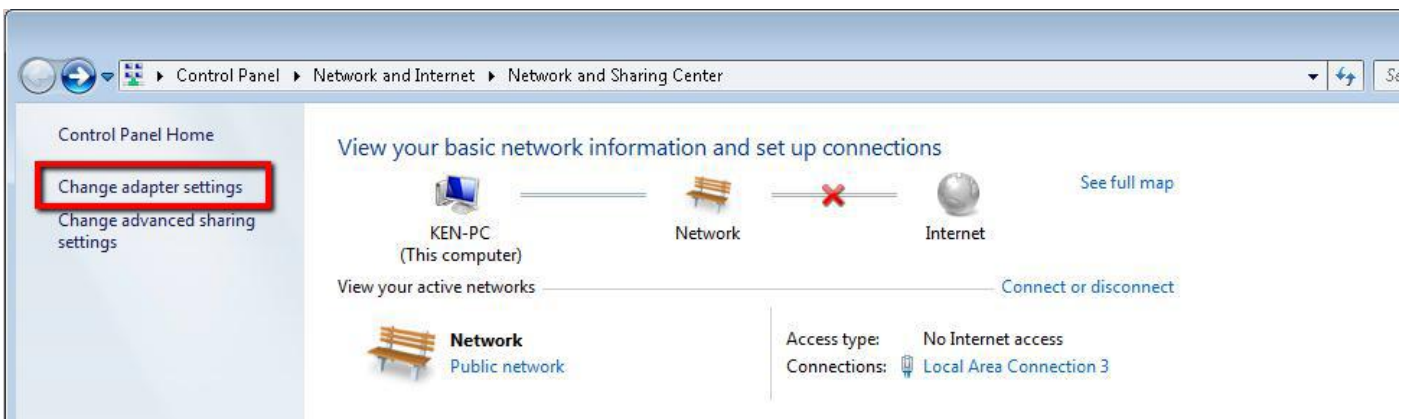

Figure 13 Adapter Setting
12. Choose "Change Adapter Settings" as below Figure 13.